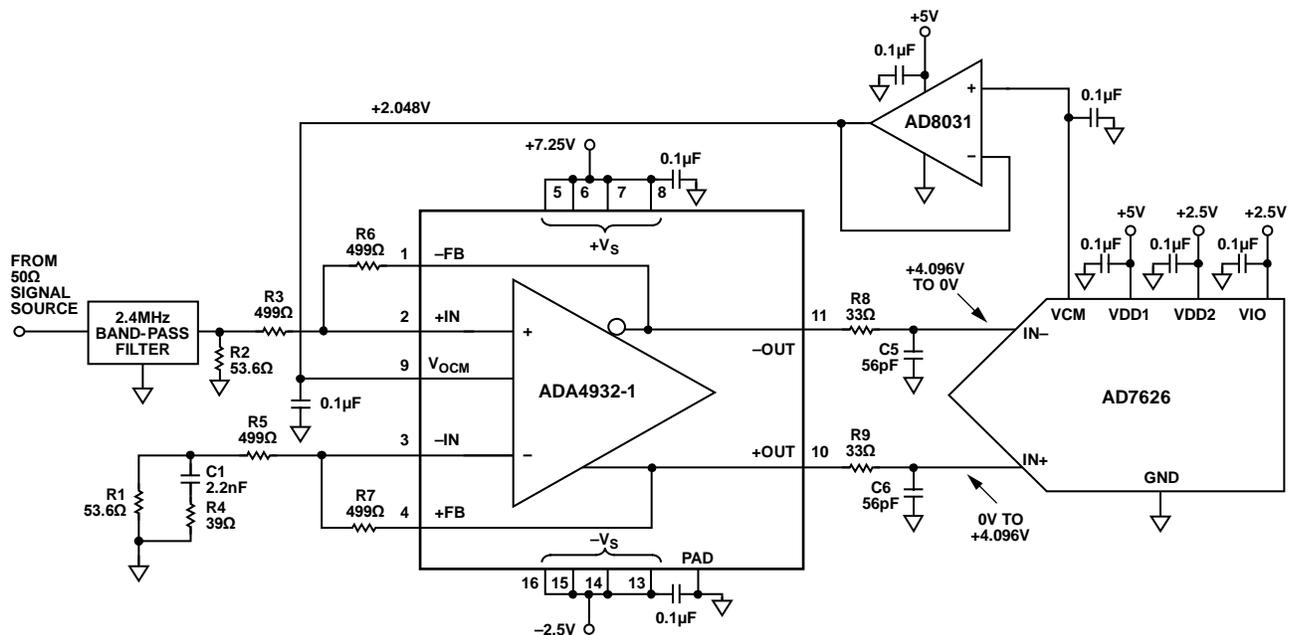

Figure 1. ADA4932-1 Driving the AD7626 (All Connections and Decoupling Not Shown)
The circuit shown in Figure 1 provides a method to convert a high frequency, single-ended input signal to a balanced differential signal that is used to drive the AD7626 16-bit, 10 MSPS, PulSAR® analog-to-digital converter (ADC). The circuit maximizes the AD7626 performance for high frequency input tones using the ADA4932-1 low power differential amplifier to drive the ADC. The benefit of this combination of devices is high performance at low power.
Using a differential amplifier to drive an ADC successfully is linked to balancing each side of the differential amplifier correctly. Figure 1 shows the schematic for the ADA4932-1, AD7626, AD8031, and associated circuitry. In the test circuit used, the signal source is followed by a 2.4 MHz band-pass filter. The band-pass filter eliminates the harmonics of the 2.4 MHz signal and ensures that only the frequency of interest is passed to and processed by the ADA4932-1 and AD7626.
The Thevenin equivalent network is shown on the inverting input (IN-) of the ADA4932-1 in Figure 1. This circuit is optimized for performance at 2.4 MHz. The R1 resistor is paralleled by the series combination of C1 and R4. At 2.4 MHz, the complex series combination of C1 and R4 equals 55.6 Ω. The 55.6 Ω impedance in parallel with R1 is within a few ohms of the Thevenin equivalent circuit input impedance on the non-inverting input. Matching of the two inputs ensures that the outputs are symmetrical, balanced, and optimized for lowest distortion.
The common-mode voltage at the output of the ADA4932-1 is set by buffering the VCM pin output voltage (nominally 2.048 V) from the AD7626 with the AD8031 configured as a unity-gain buffer. The AD8031 provides the ADA4932-1 V_{OCM} pin with a low source impedance and is capable of driving the large bypass capacitor, as shown in Figure 1.
The ADA4932-1 is particularly useful when driving higher frequency inputs to the AD7626, a 10 MSPS ADC with a switched capacitor input. The resistor (R8 and R9) and capacitor (C5 and C6) circuit between IN+ and IN- pins of the ADA4932-1 and AD7626 acts as a low-pass filter to noise. The filter limits the input bandwidth to the AD7626, but the main function of the filter is to optimize the interface between the driving amplifier and the AD7626. The series resistor isolates the driver amplifier from high frequency switching spikes from the ADC switched capacitor front-end. The AD7626 data sheet shows values of 20 Ω and 56 pF. In the circuit shown in Figure 1 these values were empirically optimized to 33 Ω and 56 pF. The resistor capacitor (RC) combination can be optimized slightly for the circuit and input frequency being converted by simply varying the RC combination. Note that the incorrect RC combination limits the total harmonic distortion (THD) and linearity performance of the AD7626. Increasing the bandwidth as seen by the ADC introduces more noise.